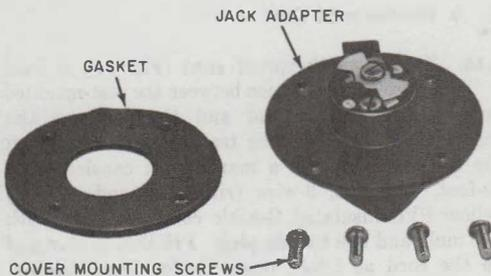

Fig. 58—B Waterproof Female Jack Adapter
3.12 The B weatherproof female jack adapter (Fig. 58 and 59) mounts on an existing KS-8421 jack housing after the old jack and front plate are removed. It will receive the male plug of the B or C weatherproof cord to provide telephone service to recreational vehicles or boats. A spring-loaded hinged cover protects the jack from weather when not in use. A rubber boot on the mating connector of the cord provides a weatherproof seal when in use. Three screw terminals on rear of jack stamped T, R, and GR provide connections.